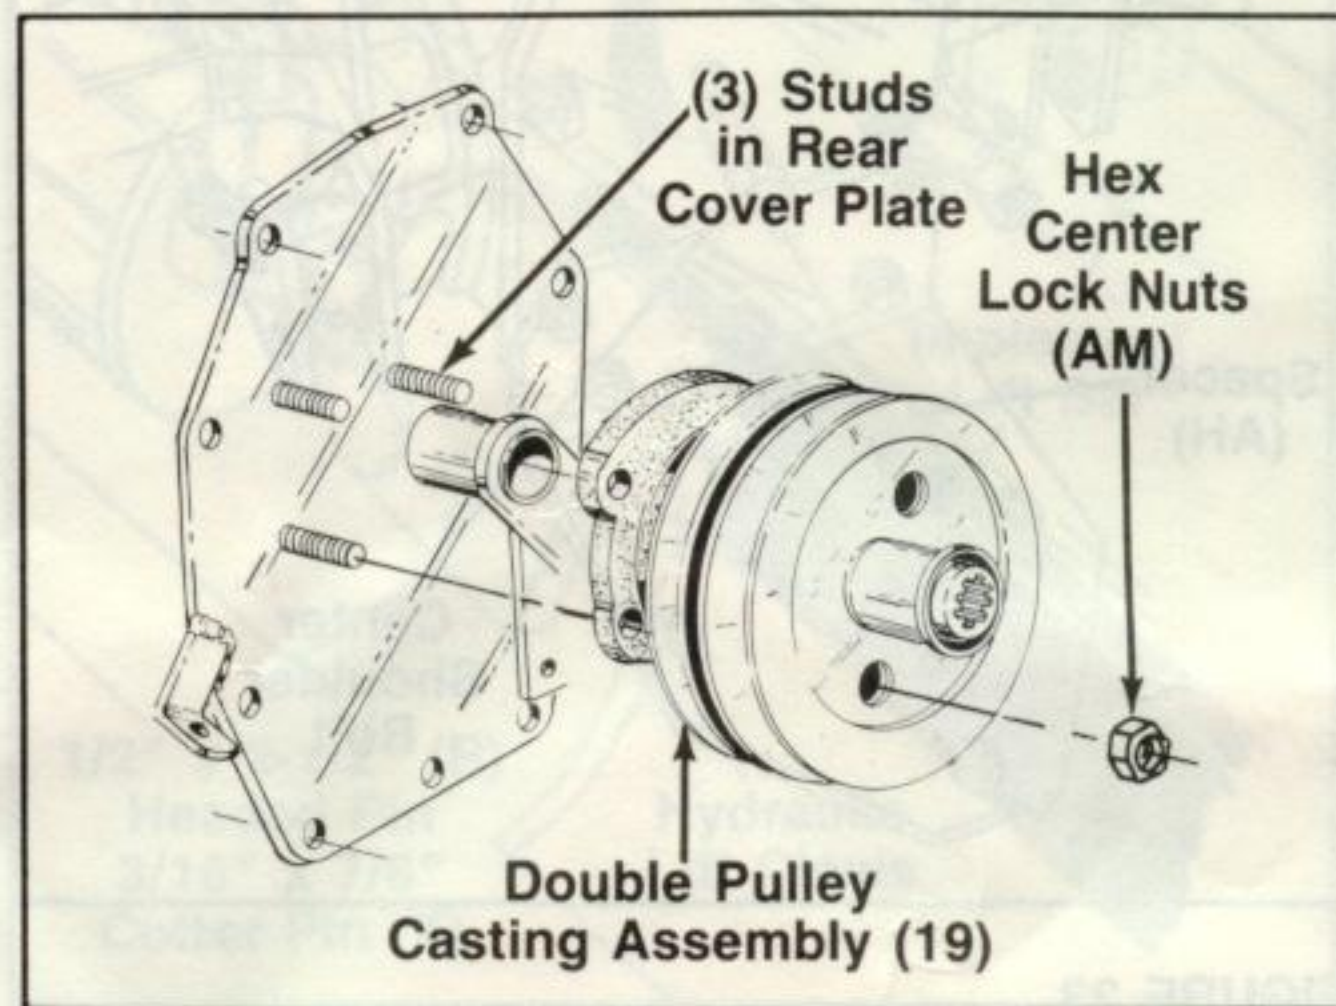

FIGURE 29.
39. Slide the double pulley and casting assembly (19) onto studs in rear cover plate and secure with three hex center lock nuts (AM) using a socket head wrench through the access holes in the double pulley. See figures 29 and 30.